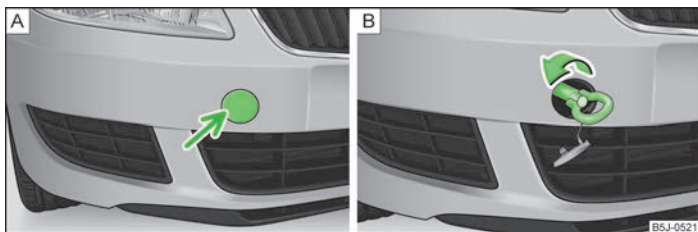

Fig. 137 Front bumper: Cap/installing the towing eye
- Press on the left half of the cap in the area of the arrow » Fig. 137 - A.
- Screw in the towing eye by hand to the left up to the stop » Fig. 137 - B. For tightening purposes, we recommend, for example, using the wheel wrench, towing eye from another vehicle or a similar object that can be pushed through the eye.